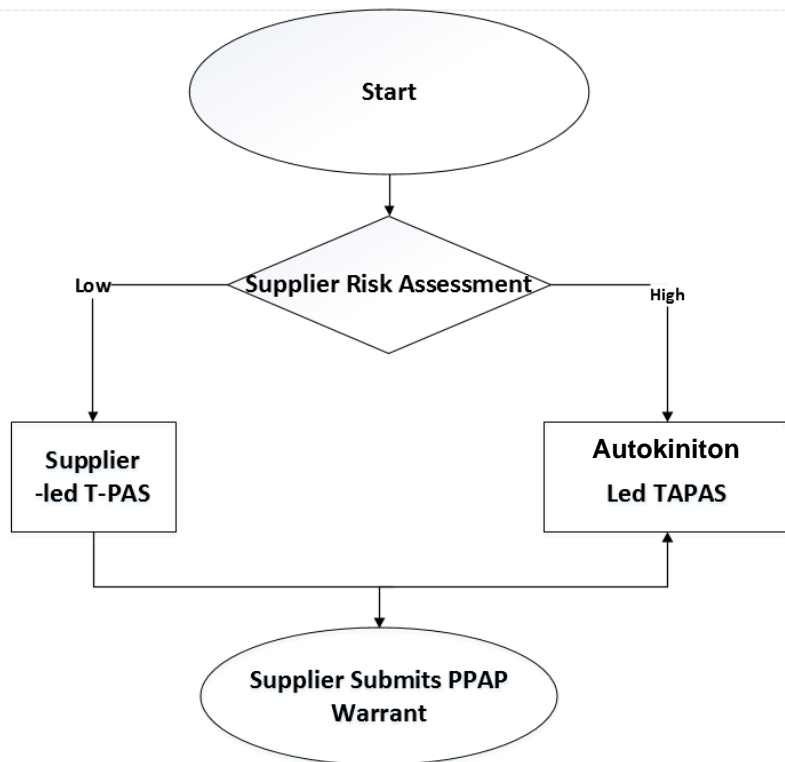
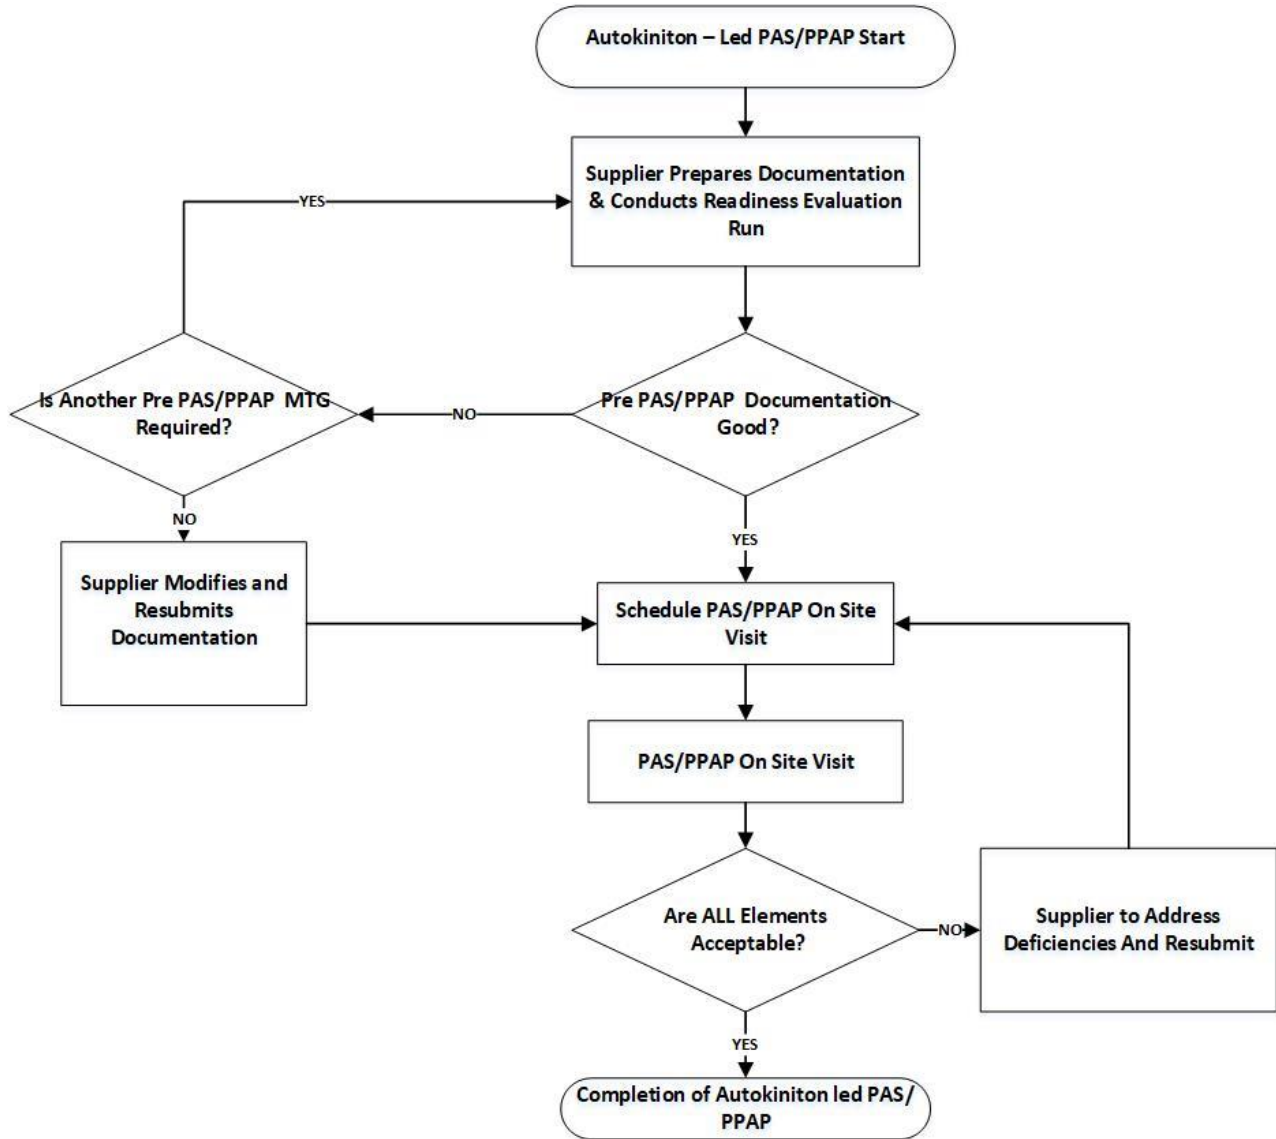

Figure 1. The overall process flow for PAS. Detail for the two major elements follows.
Figure 2. The process flow for Autokinton-led T-PAS
3.1. The PAS/PPAP process is divided into two paths, depending on the Part Risk Assessment, but results in both cases in a PPAP Package submission, Figure 1. In the AUTOKINITON Led PPAP, an AUTOKINITON colleague will visit at least twice, Figure 2. The first AUTOKINITON visit will review the documentation & plans, and recommend any changes. The second AUTOKINITON visit will witness the parts being made; review the final documentation; evaluate the Initial Process Study; and review the recovery plans, if necessary. In certain cases it